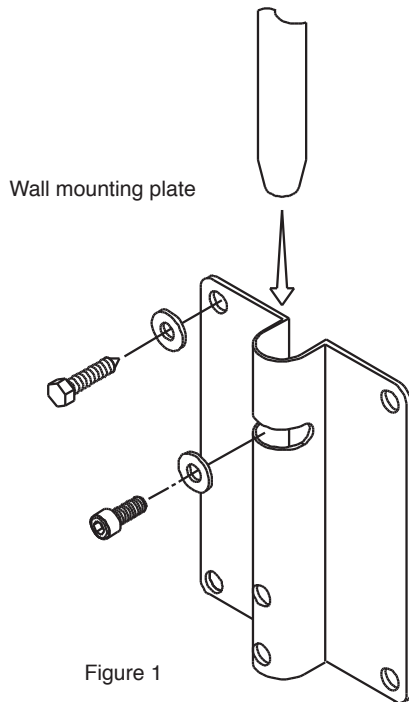

Figure 1
Step 1: For installation using the pan angle option, attach the wall mounting plate to the wall with the open center slot towards the ceiling using the appropriate hardware for the wall structure (Figure 1).
Step 3: Lift the assembled speaker with the support arm up to the slotted end of the wall mounting plate. Insert the support arm into the top end of the wall mounting plate barrel. Line up the threaded hole of the support arm with the open slot of the wall mounting plate. Insert the included socket screw and a flat washer, then tighten loosely (Figure 1).